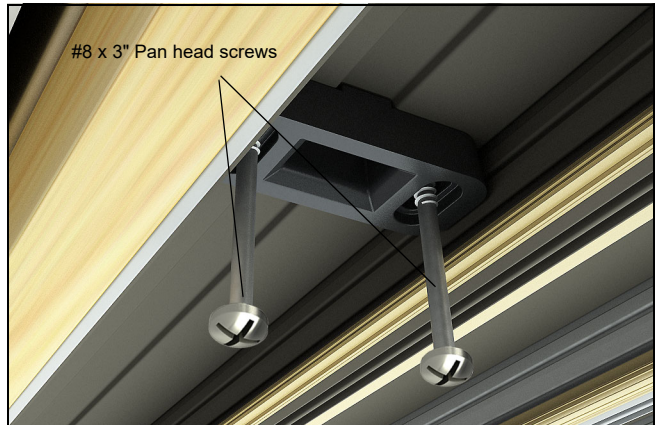

Figure 48
7. Fasten the flush bolt strike through the pre-drilled holes using the #8 x 3" black installation screws, near the center of the head jamb on the interior track. Ensure there are adequate shims between the rough opening and the head jamb where the strike is located. See figure 48.